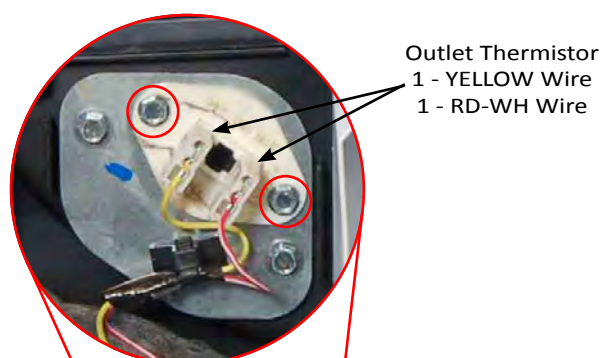

Figure 3
4. Disconnect the two wire connectors from the outlet thermistor terminals (red-white and yellow). See Figure 3 below.
5. Remove the screws from the outlet thermistor as illustrated in Figure 3 and remove the component from the blower housing.